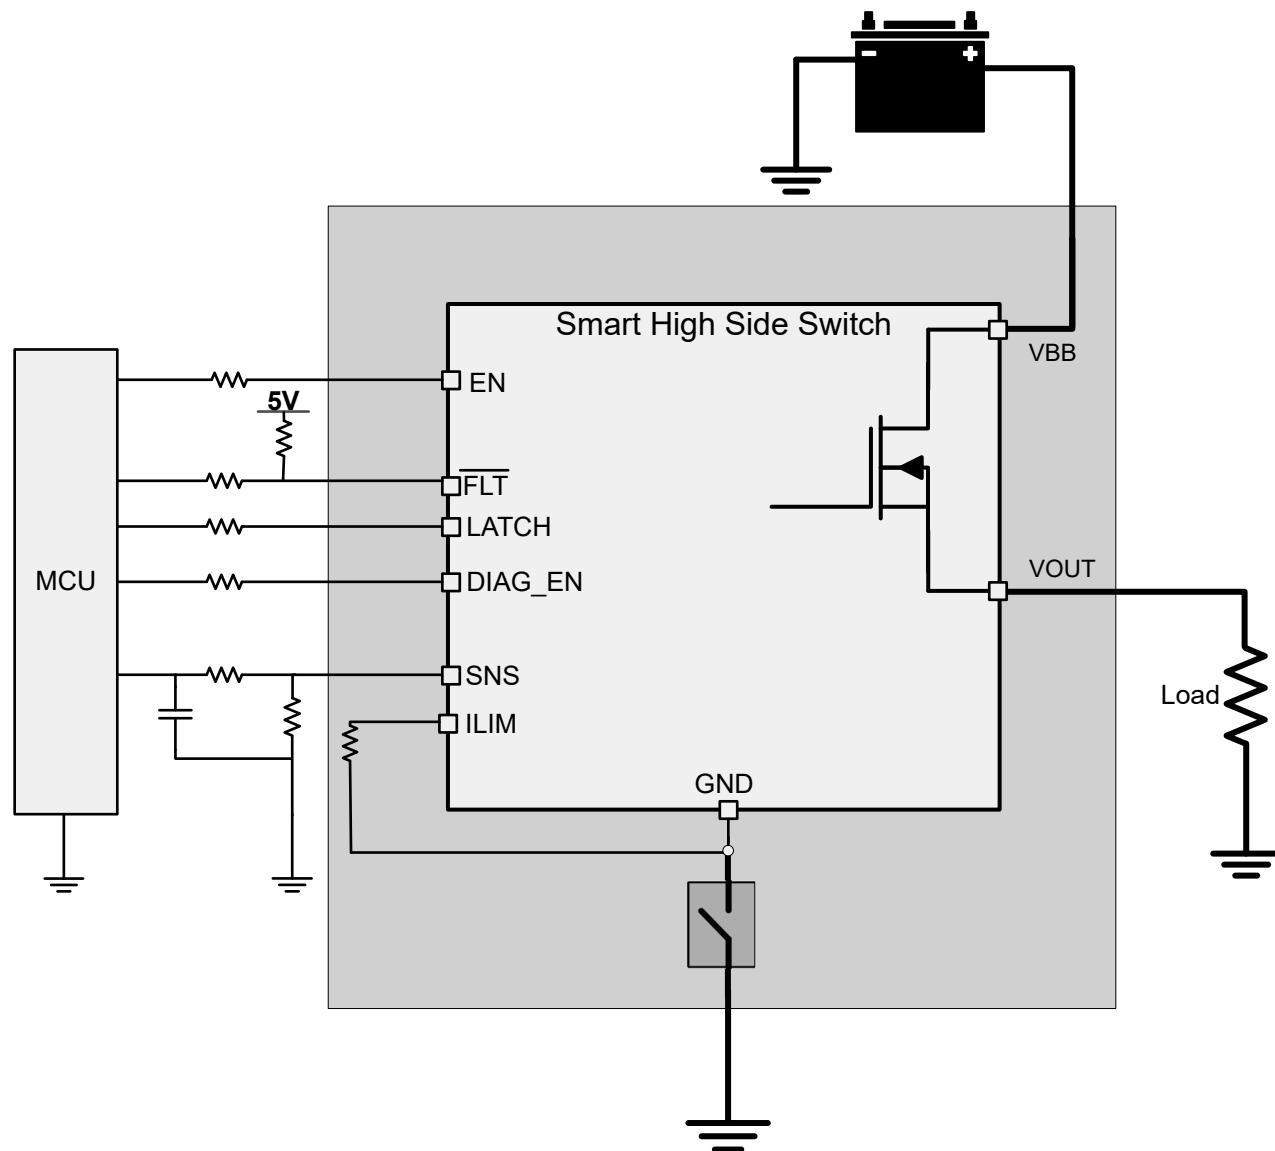

図 7-17. Loss of Device GND
**Case 1 (loss of device GND):** loss of GND protection is active when the thermal pad (Tab),  $I_{C\_GND}$ , and current limit ground are one trace connected to the system ground, as shown in 図 7-17.